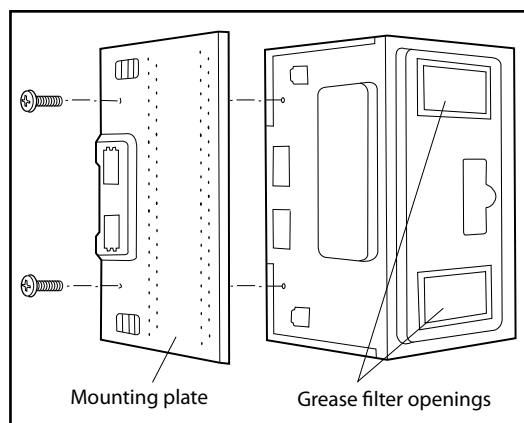

Figure 6
3. Rest the microwave oven on its side as shown in Figure 6.